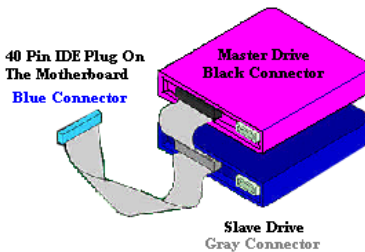

Figure 2-12. How to connect an ATA/66 Cable to the Motherboard
- Attach the BLACK connector to the mating plug on the master hard drive. Attach the GREY connector to the mating plug on the slave drive (secondary hard drive, CD ROM, or tape drive). Please refer figure 2-12.